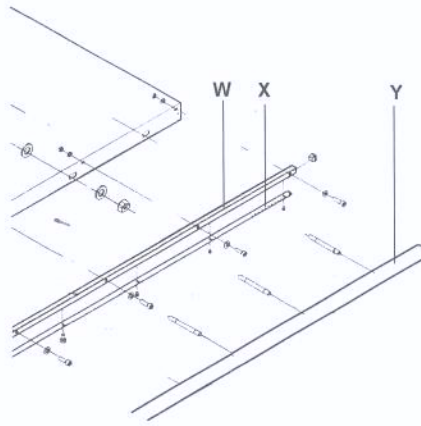

Fig 4
Adjust the rack (X, Fig 4) so that the micro adjust pinion (Y) engages nicely (with little but not too much gear space).